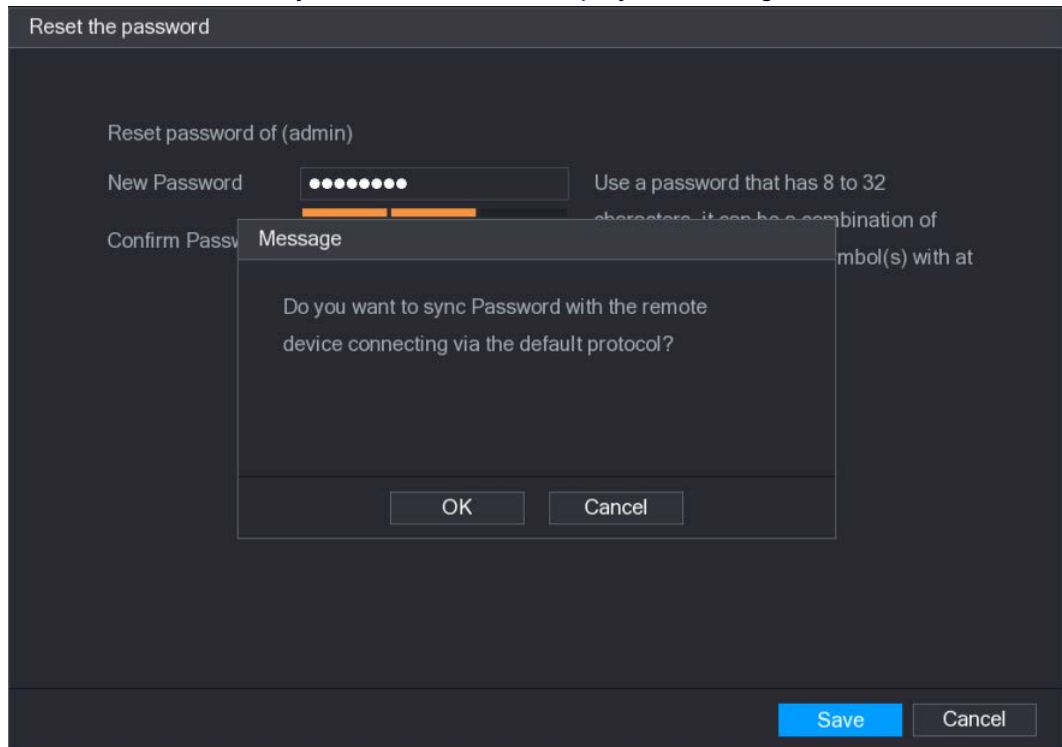

Figure 5-12
A pop-up message is displayed asking if you want to sync the password with the remote devices, see Figure 5-12.
- Click **OK**, the Sync Info interface is displayed. See Figure 5-12.